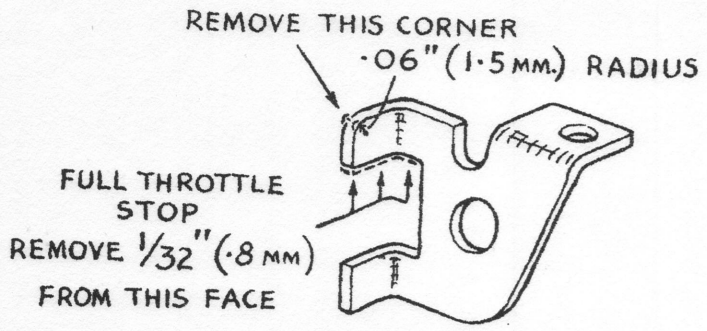

Fig. 2.
(2) INABILITY TO OBTAIN FULL THROTTLE - This may be caused by the stop bracket on the accelerator pedal and bracket assembly preventing full movement of the cable operating arm. Remove the assembly from the vehicle and modify the stop bracket by removing 1/32" (.8 mm) from the contact surface of the full throttle stop only (See Fig. 2).
Radius the top corner of the stop bracket as shown in Figure 2 to avoid the possibility of a foul against the toe board swaging.